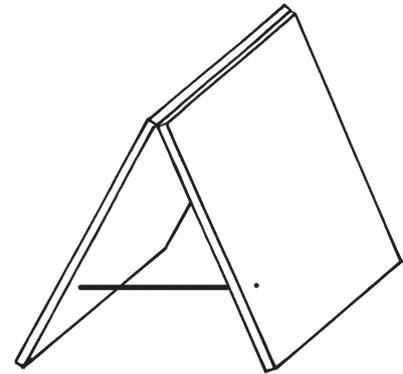

Figure 11
4. Show on the drawing in Figure 11 in which direction the corrugations should go to make the strongest supports for your table.